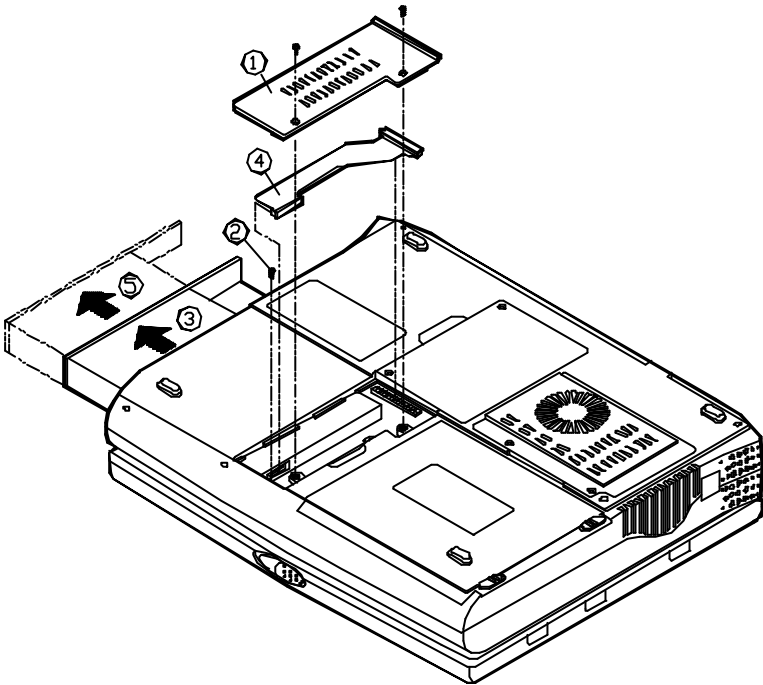

Figure 2-14
- Remove the CD-ROM cover (Step 1 in Figure 2-14).
- Remove the securing screw to release the CD-ROM module. (Step 2 in Figure 2-14).
- Slide the CD-ROM module slightly out to disconnect the cable (Step 3 and Step 4 in Figure 2-14).
- Pull gently and firmly the CD-ROM module away from the compartment (Step 5 in Figure 2-14).